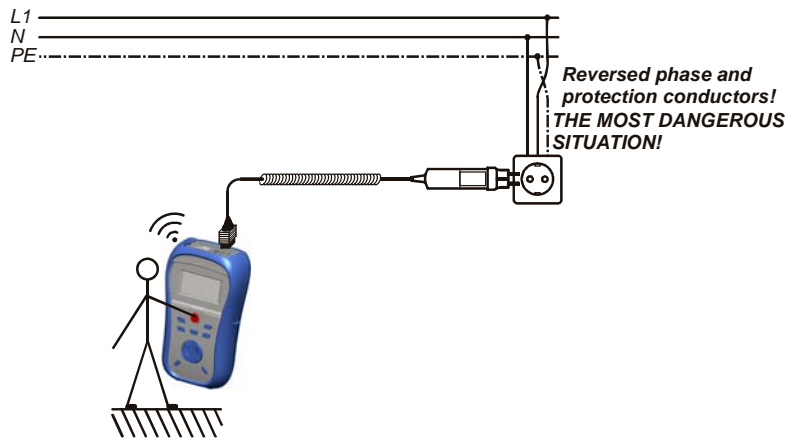

Figure 5.40: Reversed L and PE conductors (application of plug cable)
- ❑ **Connect** test leads to the item to be tested (see figures 5.40 and 5.41).